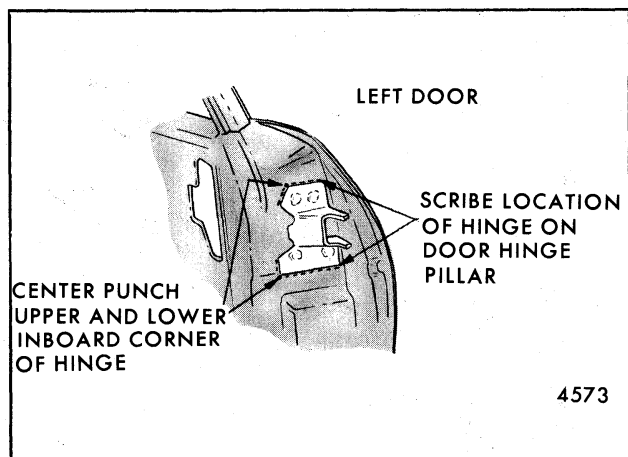

Fig. 5-74-Locating Hinge on Door Hinge Pillar - "X" Styles
3. Center punch and scribe location of hinge on door hinge pillar (refer to Fig. 5-74).